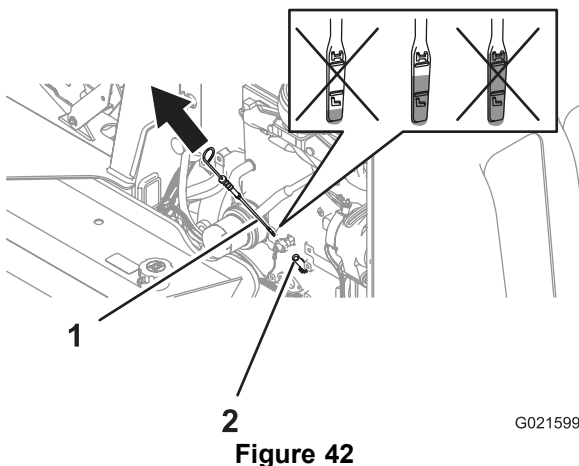

Figure 42
4. Remove the dipstick and wipe clean it with a clean cloth (Figure 42).
5. Insert the dipstick into the dipstick tube, pull the dipstick out again, and read the oil level on the dipstick (Figure 42).